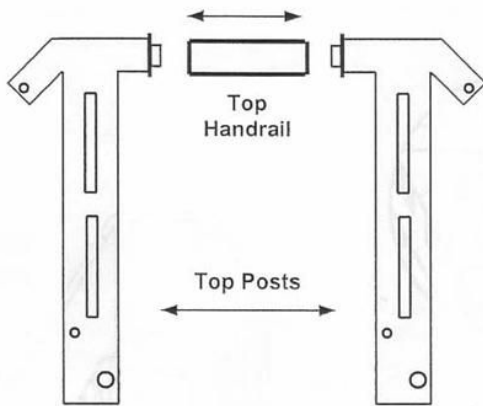
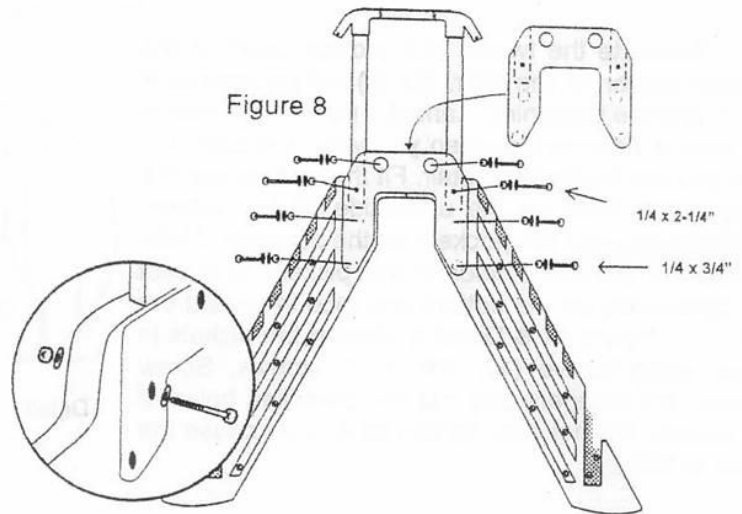

Figure 7
Figure 8
6. Fit a square top handrail (short) in place between two top posts (short) as shown in Figure 7. Make certain the handrails fit securely in place. Fit the two connected top posts and handrail into the top pockets of the stringers and press in place. Position a u-shaped connector ovetop and also press in place (see Figure 8). Secure u-shaped connector and posts using two (2) 2 1/4" bolts, four (4) washers (both sides) and hex nuts. Use six (6) 3/4" bolts, twelve (12) washers (both sides) and hex nuts to complete the fastening of the u-shaped connector. Tighten all hardware. Pre-drill 1/8" pilot holes in both ends of the top handrail and secure in place using two #8 x 3/4" screws